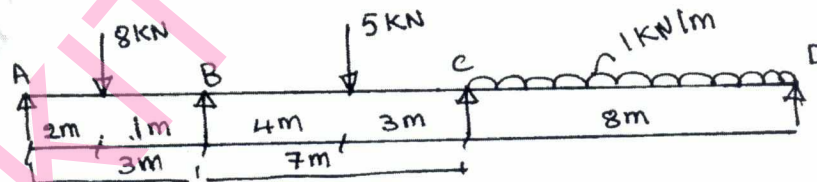

Fig. Q3
- 3 Analyse the continuous beam ABCD 20 m long simply supported at its ends and loaded as shown in Fig. Q3. If support B sinks by 10 mm, analyse the beam by moment distribution method. Sketch the SFD and BMD. Take $E = 2.1 \times 10^5 \text{ N/mm}^2$ and $I = 85 \times 10^5 \text{ mm}^4$. (20 Marks)